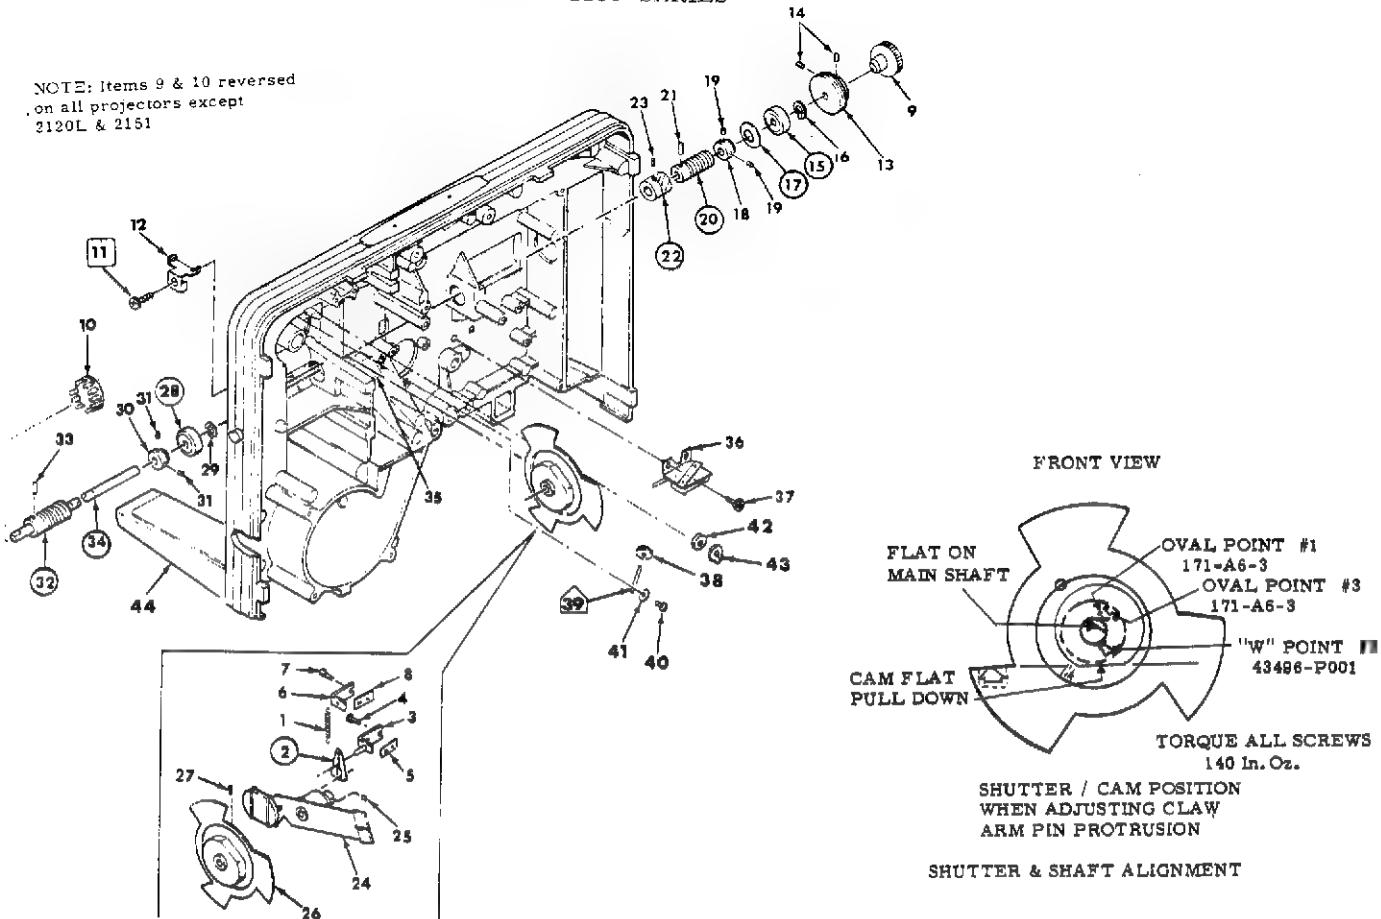

Figure 3-19. REMOVAL AND REASSEMBLY OF MAIN SHAFT
M. Removal of Main Shaft Ref. Figure 3-19
2. Loosen both Set Screws (14) in the Pulley (13) so the Pulley will rotate freely on the Main Shaft. (Figure 3-19)
3. Loosen both Set Screws (19) in the Collar (18) so the Collar will rotate freely on the Main Shaft (34).
4. Loosen Set Screw (23) in the pinion (22) so the Pinion will rotate freely on the main shaft.
5. Remove the oval point Jam Screw (27) and loosen the remaining two Set Screws in the Shutter and Cam Assembly (26) so the Cam Assembly will rotate freely on the Main Shaft.
6. Loosen both Set Screws (31) in the Collar (30) so the Collar will rotate freely on the Main Shaft.
7. Loosen Set Screw (25) in the Safety Shutter (24) so the collar of the Safety Shutter rotates freely on the Main Shaft. Unhook the Link (2) from the Safety Shutter and allow the Spring (1) to pull the Link against the Pin on the Bracket Assembly (3). (Disregard for projectors having no Safety Shutter.)
2. Apply a thin coat of DC 44 grease (39479-P9) to the outside circumference of main shaft Bearings (15) and (28).
3. Install "C" Rings (16) and (29) with Waldes retaining ring applicator CR-0310.
4. Align the Set Screws (31) in Collar (30) with their corresponding recesses in the main shaft and start tightening them. Be sure the points of the screws seat properly in the recesses. Otherwise, the main shaft will be burred and will not be positioned properly in the projector. It is best to tighten each one a little bit at a time and alternately with the other one until they cannot be tightened further. The main shaft should visibly move forward during the tightening process. Manually pushing the main shaft forward while starting to tighten these screws will help insure they are seated properly.
5. Tighten Set Screws (19) in Collar (18) observing the proper alignment and seating of the Set Screw points as noted in Step 4. The main shaft will not move forward when these screws are tightened.
6. Use a new Roll Pin (21) (P/N 191-N6-9) when reassembling Gear (20) to the main shaft.
7. Position the Pinion (22) .146" to .156" (diameter of a 5/32" drill bit) from the Drive Gear (20) and tighten Screw (23) on the flat of the main shaft.
9. Rotate the Main Shaft (34) until the flat on the shaft just behind the Front Bearing (28) is at about 11 o'clock (See Shutter and Shaft Alignment insert on Figure 3-19). Rotate the Shutter and Cam Assembly (26) until the Setscrew (#1 in insert) lines up with the flat on the Shaft (34). Gently push the Shutter and Cam Assembly forward while pushing down on the Claw Arm until the cam follower on the Claw Arm slips under the the Cam. Tighten the Setscrew (#1 in insert) on the flat of the Shaft (34). Make sure the Claw Arm is not hitting the Aperture Plate.